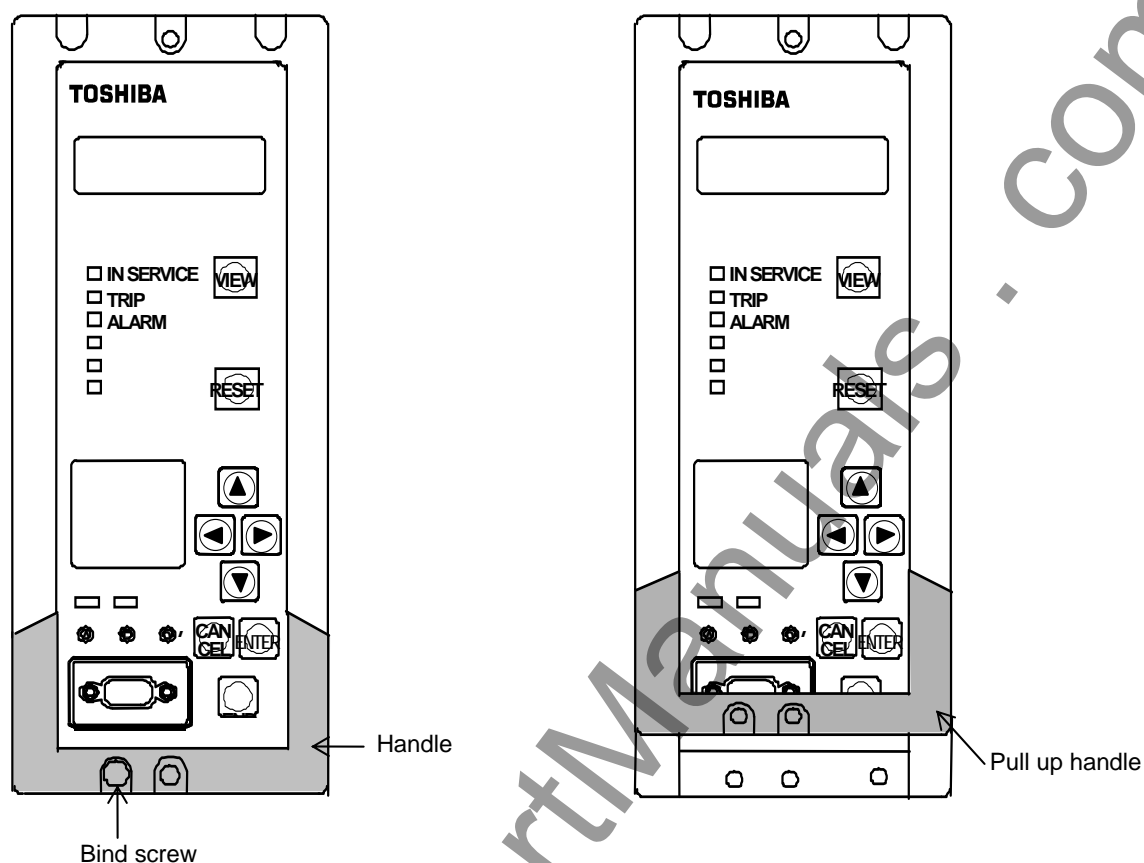

Figure 6.7.1 Handle of Relay Unit
- To remove the relay unit from its case, pull up the handle and pull the handle towards you. (See Figure 6.7.1.)